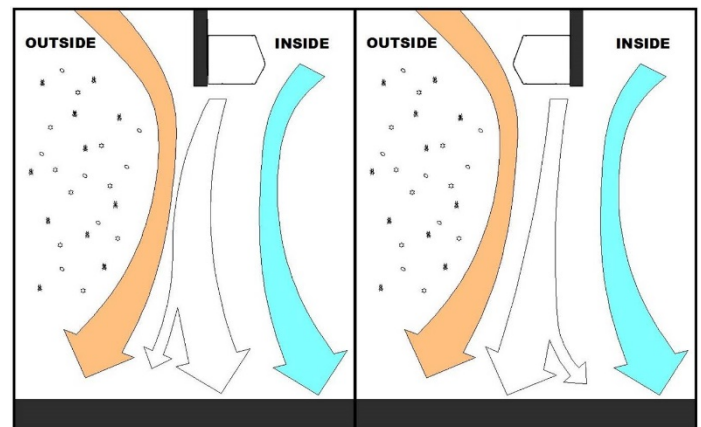

FIG. 4
- H. Regardless of whether the product is mounted on the inside or outside of the door opening, set the air directional vanes in the discharge nozzle slightly outward to approximately 10-15° towards the outside, or the wind load. (FIG. 4)